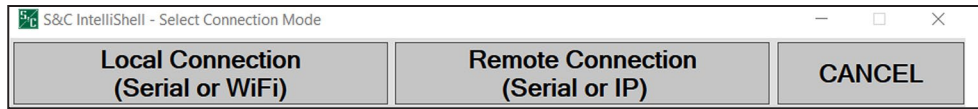

Figure 21. The S&C IntelliShell - Select Connection Mode dialog box.
STEP 1. Start the IntelliLink software and select between a local or remote connection. See Figure 21.